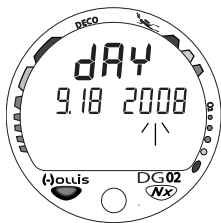

Fig. 25 - Set Date
- After having set and accepted the Time, the Set Date screen appears, or while the Surface Sequence is scrolling, depress the button until it appears with the graphic dAY and Year digits flashing (Fig. 25).